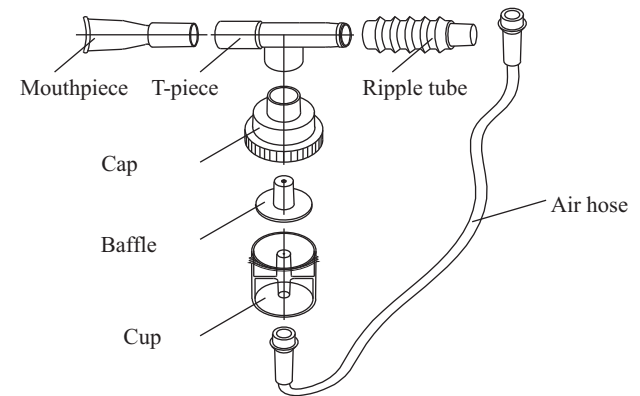

Figure 8: Nebulizer Components
▶ After finishing cleaning, must dry all the components before storage. (Nebulizer installment is shown in figure 8).
- 1) After nebulizing, remove the nebulizer from oxygen concentrator. Turn off the oxygen concentrator, disconnect the hose, remove the cap, disassembly the nebulizer as shown in Figure 8.